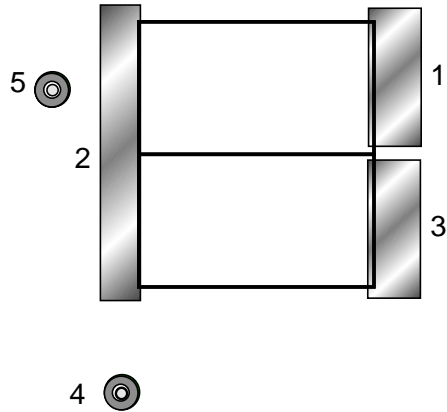

Figure 27
- Locate the larger binocular coil form for use at T2. Note: T2 may vary in length from 1" to 1 1/8" (25 to 29 mm). The given pads can accommodate either length. Figure 27 shows all five of T2's pads.